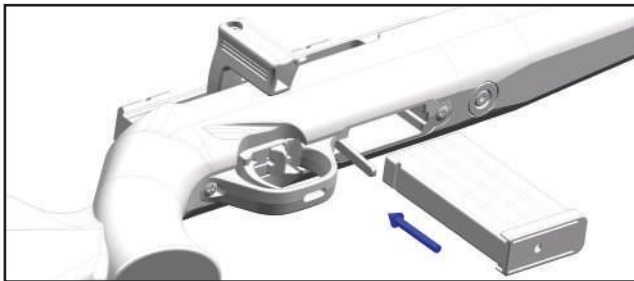

figure 4
1. Insert the magazine in the magazine tray and ensure that it is fully engaged (figure 4).